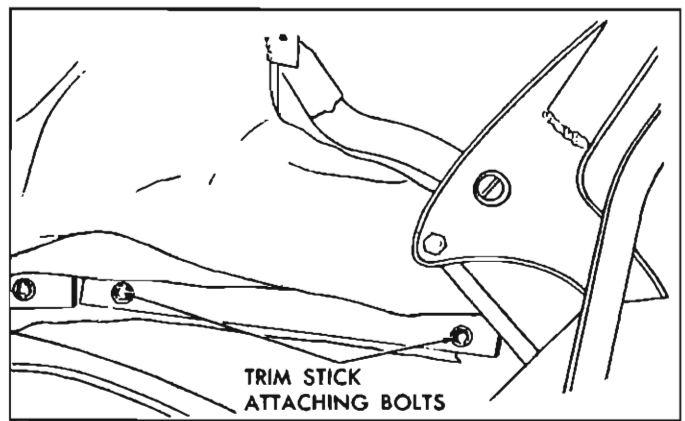

Fig. 43—Rear Quarter Trim Stick
8. At each rear quarter area remove attaching bolts securing rear quarter trim stick assembly to rear quarter inner panel (fig. 43).